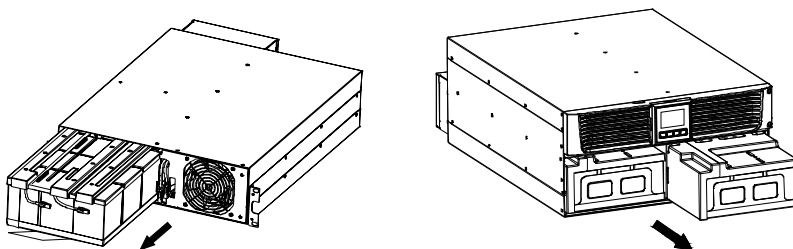

Figure 14: Removing the Battery Tray
3. Pull the battery tray out using the plastic tabs and remove the battery tray.(see Figure14)